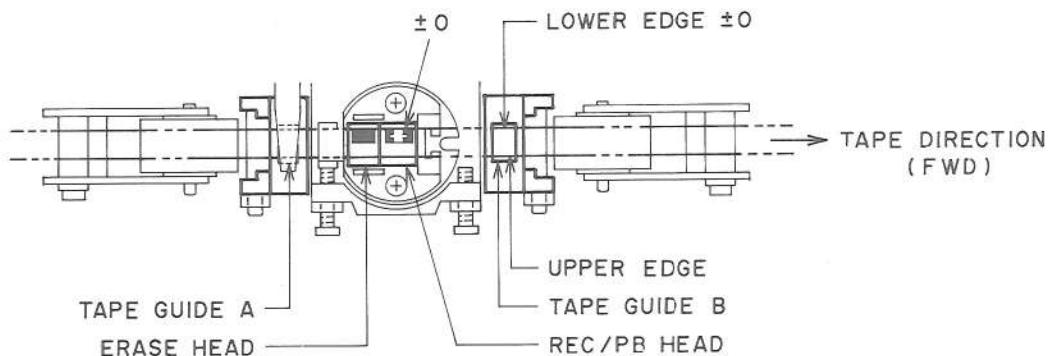

Fig. 8-1
- 1) Use the mirror tape (AJ-751178) and adjust the tape guide height with turning the tape guide height adjustment nuts ④ and ⑤ so that when in FWD Play mode, the tape edge and the head edge match as in Fig. 8-1.
- 2) Play back the 315 Hz OVU (AT-750773) tape and adjust the tape guide height adjustment nuts ④ and ⑤ so that the difference in level between Lch on FWD and Lch on REV is within 0.5 dBm.
- 3) Play back the 1 kHz 4 Track (AT-750775) tape and adjust the tape guide height adjustment nuts ④ and ⑤ so that the difference in level between this and the 315 Hz tape in 2) is within 2.0 dBm.
- 5) Use the mirror tape and check that the tape runs smoothly (The tape edge should not catch on the tape guide and should not curl.) If the tape edge catches on the tape guide, move the tape guide height adjustment nuts ④ and ⑤ slowly until the tape runs smoothly.
7) After adjustment, paintlock the tape guide height adjustment nuts ④ and ⑤.